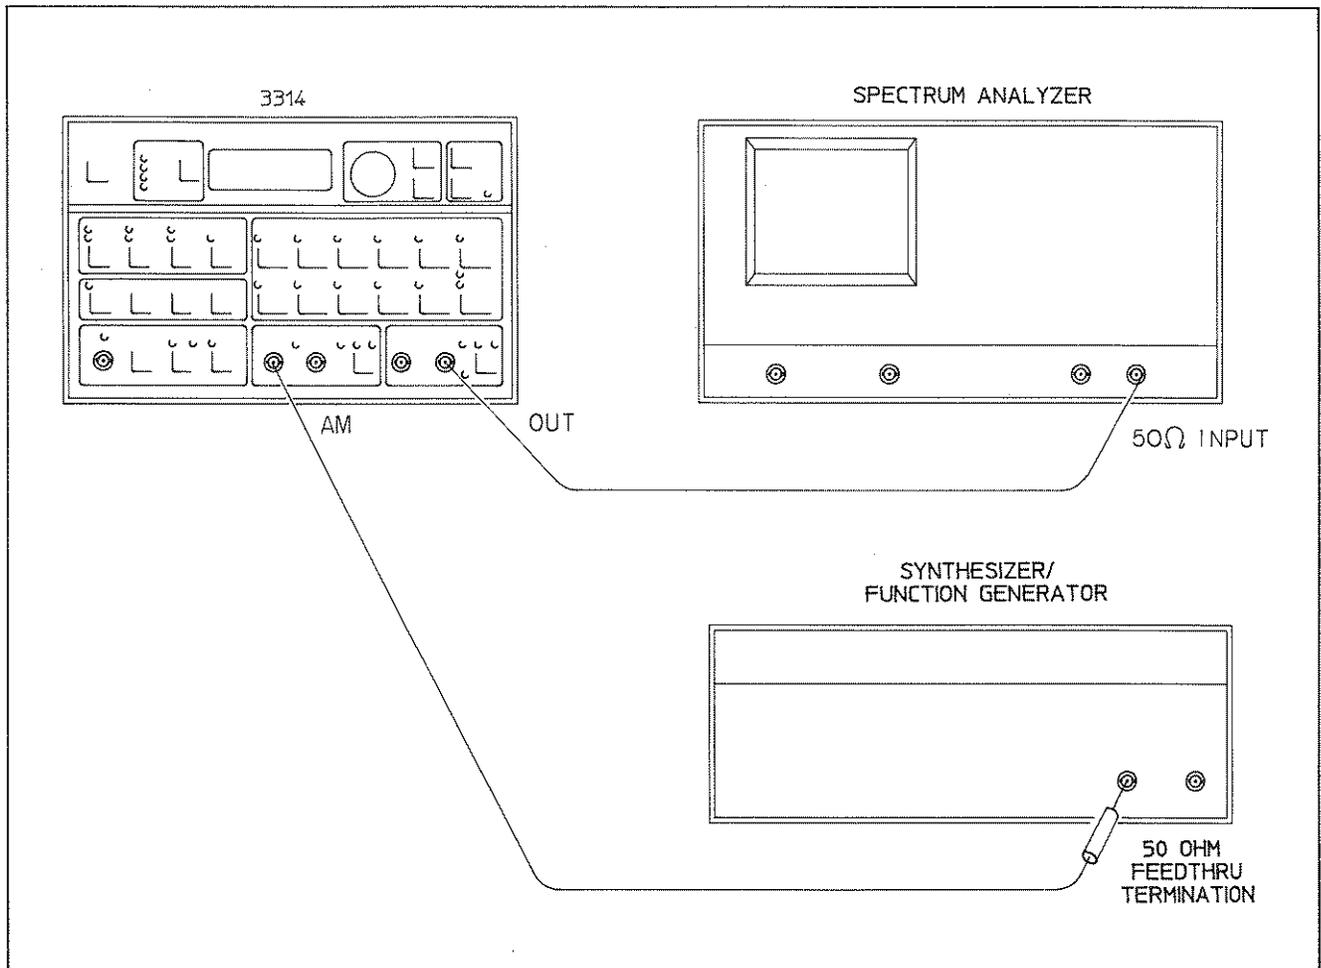

Figure 4-10. AM Harmonics
E. Connect the 3314A to the Synthesizer and Spectrum Analyzer as shown in Figure 4-10.